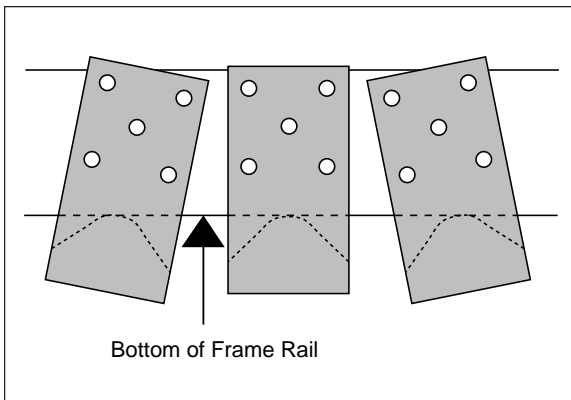
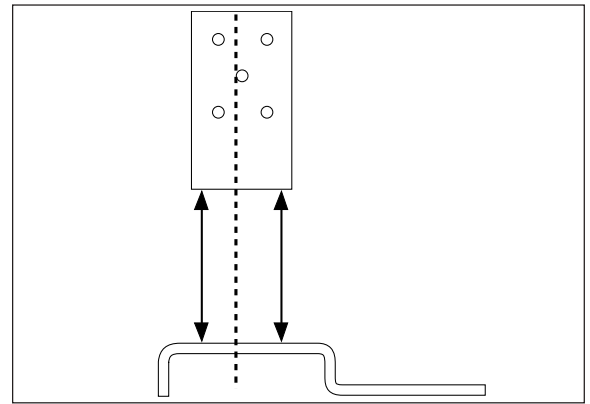
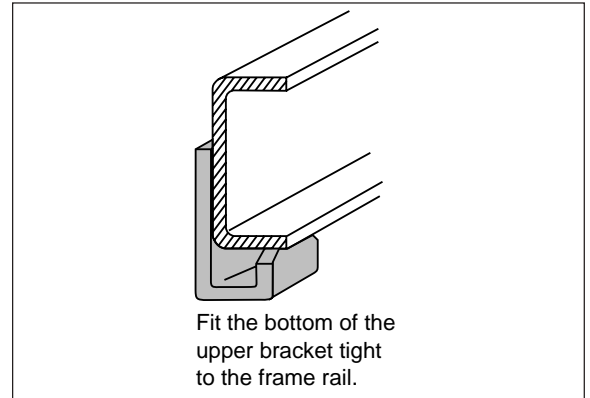

Figure 4
Figure 6
Figure 7
- The upper bracket must be parallel and perpendicular to the lower bracket (Figure 6). The upper bracket is designed so that it can be "titled" for the proper angle (Figure 4). The bottom of the upper bracket must fit tight to the bottom of the frame rail (Figure 7). It is necessary to use at least three of the five predrilled mounting holes in the upper bracket. Any combination of three is permissible. **CAUTION:** Do not drill any holes into the frame until all hydraulic lines, gas lines, and electrical wires have been moved aside on both sides of the frame rail. Using the bracket as a template, center punch and drill three  $\frac{5}{16}$ " holes. **NOTE:** The holes must be no larger than  $\frac{5}{16}$ ". Attach the upper bracket using the self-tapping frame bolts and tighten securely (Figure 1). Do not over tighten.